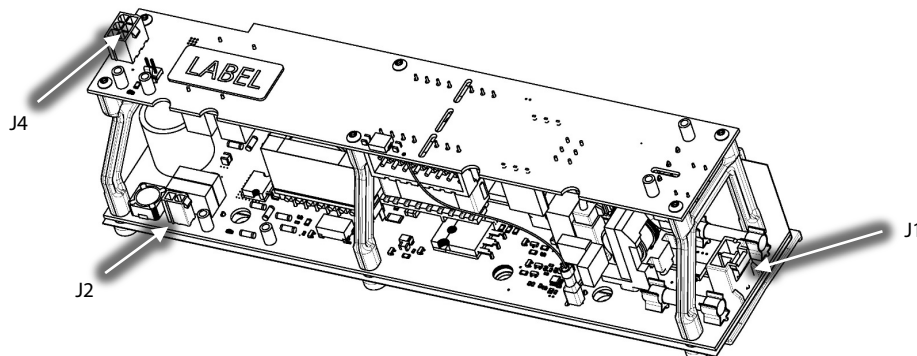

Figure 21 – DC-DC Converter Connector Locations
4. Connect the DC-DC to Backplane Cable Harness to J1 (DC Bus Input), J4 (24VDC output), and J2 (250VDC Output) of the DC-DC Converter. Refer to Figure 21 (DC-DC Converter Connector Locations).